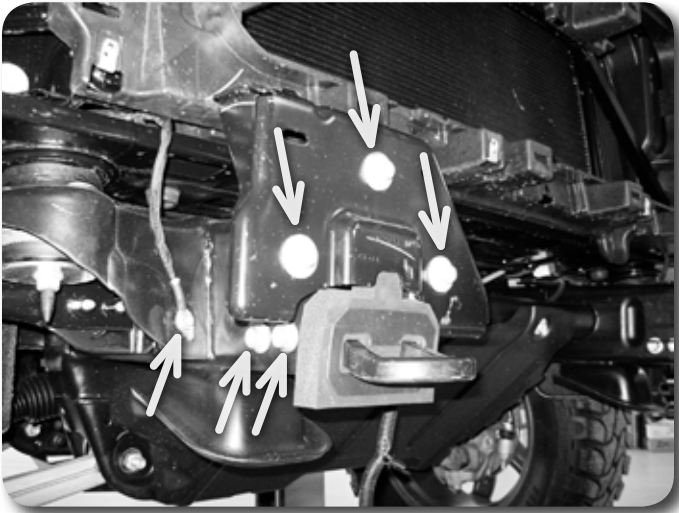

Figure 8
10. Make a small mark on each tow hook to indicate which side is up. Remove the tow hooks from the frame by removing the two (per hook) mounting bolts and plastic/foam covers. **Figure 8** Save the mounting hardware and hooks.
11. Note the orientation and remove the factory front bumper brackets from the frame horns **Figure 8**. Save all hardware.